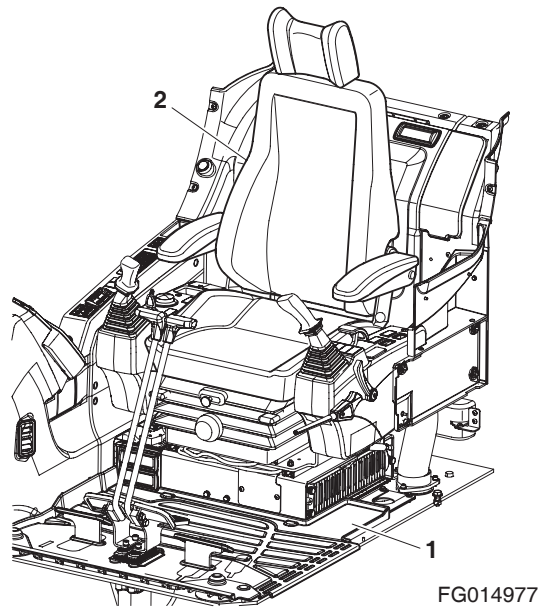

Figure 2
12. Remove floor mat (1, Figure 2).
13. Remove seat (2, Figure 2).